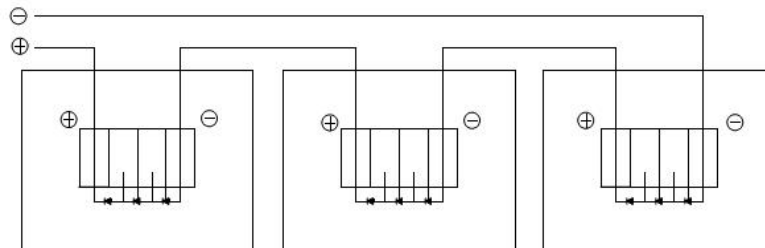
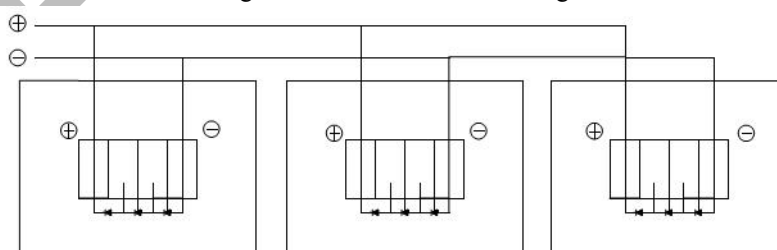

图 9 串联增加电压
图 10 并联增加电流
- 2) 为了确保系统的正常运行，在将组件连接到电池或者其他组件时，请注意观察电缆线的极性（图 9 和 10）。如果连接不正确，旁路二极管可能会损坏。
In order to ensure the normal operation of the system, make sure the modules polarity is observed (Fig.9 and Fig.10) when the modules are connected to the battery or other modules. Reverse polarity might cause damage to the protective diodes.
- 4) 组件串联连接电压累加。从一块组件的正极接线端连接到下一块组件的负极接线端。图 9 显示的是组件串联连接。
PV modules can be wired in series to increase voltage. Connect wires from the positive terminal of one module to the negative terminal of the next module. Fig.9 shows modules connected in series.
- 5) 组件并联连接电流累加。从一块组件的正极接线端连接到下一块组件的正极接线端。图 10 显示的是组件并联连接。
Connect PV modules in parallel to increase current. Connect wires from the positive terminal of one module to the positive terminal on the next module. Fig.10 shows modules connected in parallel.
Fig. 9 in series to increase voltage
Fig. 10 in parallel to increase current